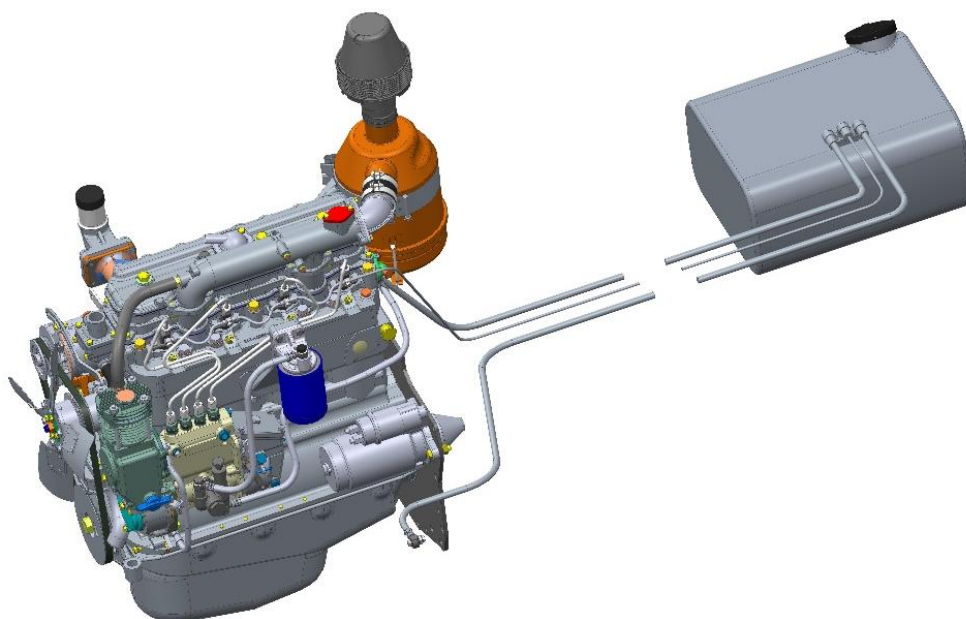
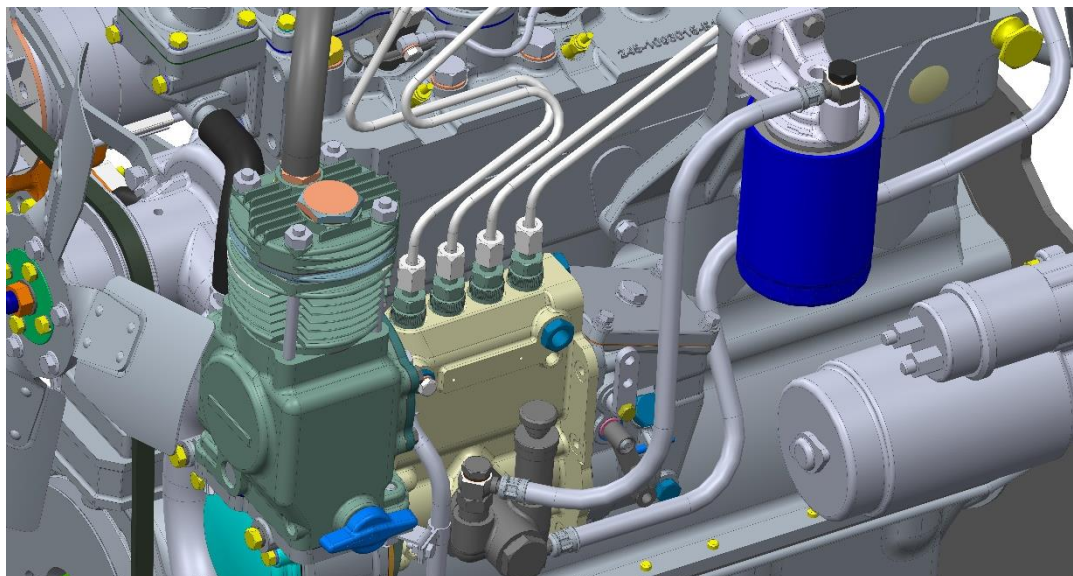

fig. 4.12. Engine with HPFP
fig. 4.13. Engine with HPFP
- 1) Disconnect the fuel lines connected to HPFP: fuel supply from the fine fuel filter and the return line with the relief valve 8 (fig. 4.12 and fig. 4.13).